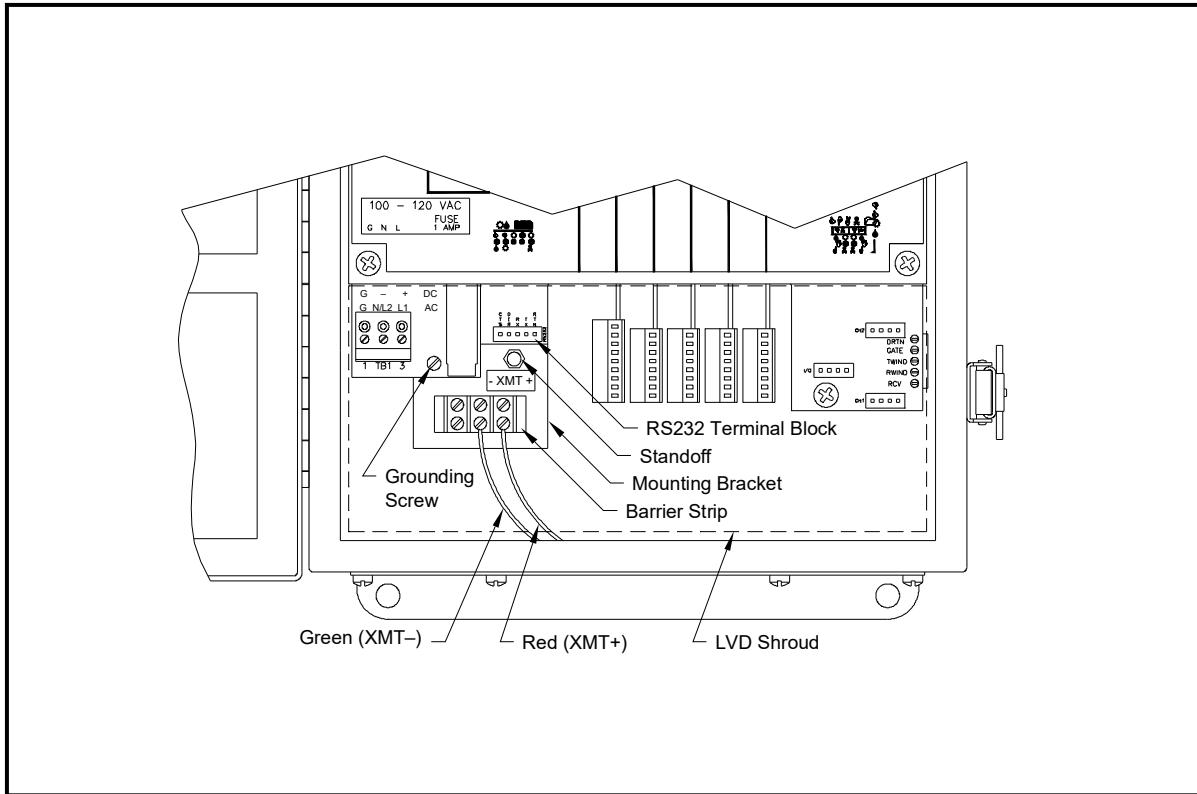

Figure 9: Interface Converter Mounting
A special bracket containing the serial interface converter and a three-terminal barrier strip is mounted inside the Model GF868, just below the RS232 terminal block (see Figure 9). The standard **RS232** terminal block is wired to the input of the serial interface converter, and the RS485 output of the serial interface converter is wired to the barrier strip.
Standard factory wiring of the RS485 serial interface is configured for point-to-point wiring. That is, a single Model GF868 may be wired directly to a single personal computer. To connect the RS485 serial interface, refer to Figure 9 on page 63 and complete the following steps:
3. Remove the serial interface converter **mounting bracket** by removing the standoff located just below the **RS232** terminal block and the grounding screw on its left (see Figure 9 on page 63).